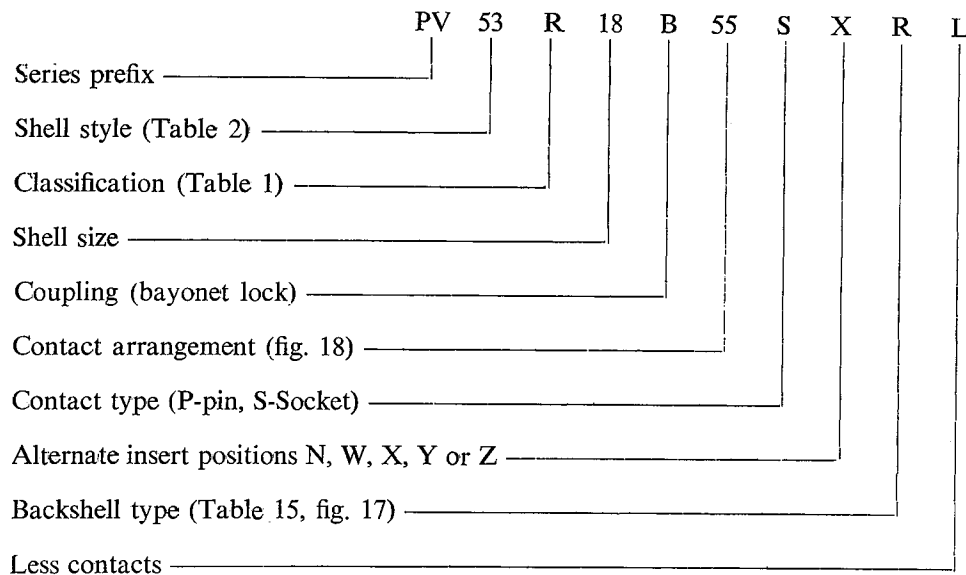

Fig. 1. Typical plug, receptacles and backshells
1. The Cannon PV series of circular, bayonet lock connectors (fig. 1) are designed to conform with the American specification NAS1599. By